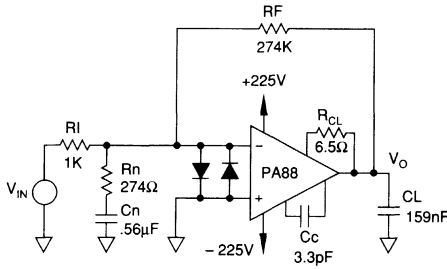
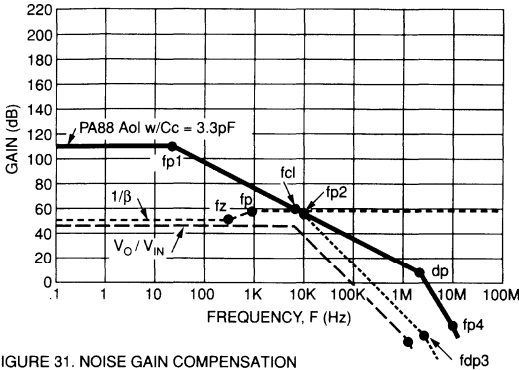
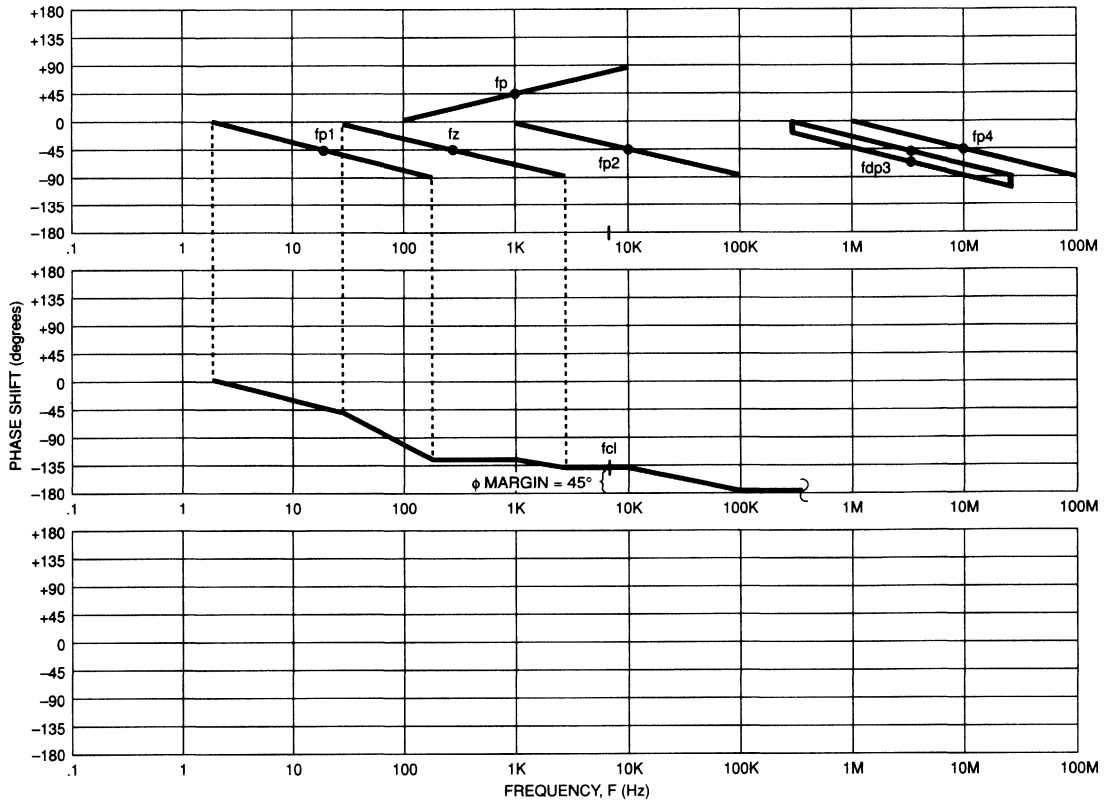

FIGURE 30. NOISE GAIN COMPENSATION FOR CL
FIGURE 31. NOISE GAIN COMPENSATION MAGNITUDE PLOT FOR STABILITY
FIGURE 32. NOISE GAIN COMPENSATION
Figure 30 (see second page following this one) illustrates a circuit utilizing noise gain compensation for stability when driving a capacitive load. Figure 31 is our magnitude plot to work with for stability.
The higher frequency poles of the unmodified PA88 Aol must be added into the modified Aol as shown in Figure 31.
STEP 4: Plot open loop phase plot as in Figure 32 (see following page) from the information given in Figure 31. We see from this plot we have 45 degrees of phase margin.